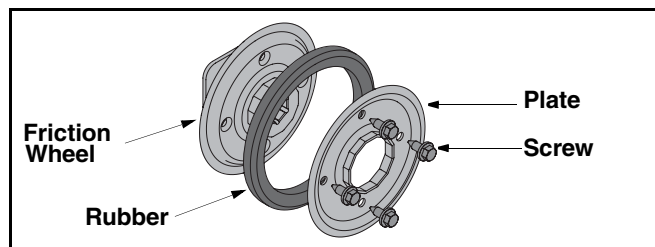

Figure 21
8. Remove the four screws from the friction wheel assembly. Remove friction wheel rubber from between the friction wheel plate. See Figure 21.
9. Reassemble new friction wheel rubber to the friction wheel assembly, tightening the four screws in rotation and with equal force. See Figure 21.